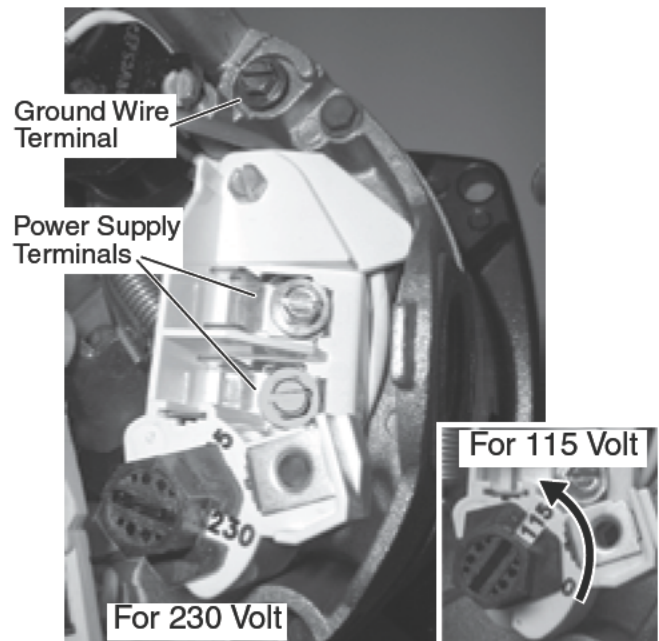

Figure 4 - Voltage set to 230 volts, Dial Type; turn dial to select 115 volts. Insert tool in slot to turn dial.
If you have a dual-voltage motor, and will connect it to 115 volts, follow the procedure below. You will need to remove the motor end cover to change the voltage setting. Your motor terminal board (located under the motor end cover) should look like Figure 4.
Step 7. Connect current carrying conductors to terminals L1 and L2 under motor canopy. When replacing motor, check wiring diagram on motor nameplate against Figure 4. If the motor wiring diagram does not match Figure 4, follow the diagram on the motor.
NOTICE 115/230 Volt single phase models are shipped from factory with motor wired for 230 volts. If power supply is 115 volts, remove motor canopy and change switch dial on motor as shown in Figure 4. Do not try to run motor as received on 115 volt current.